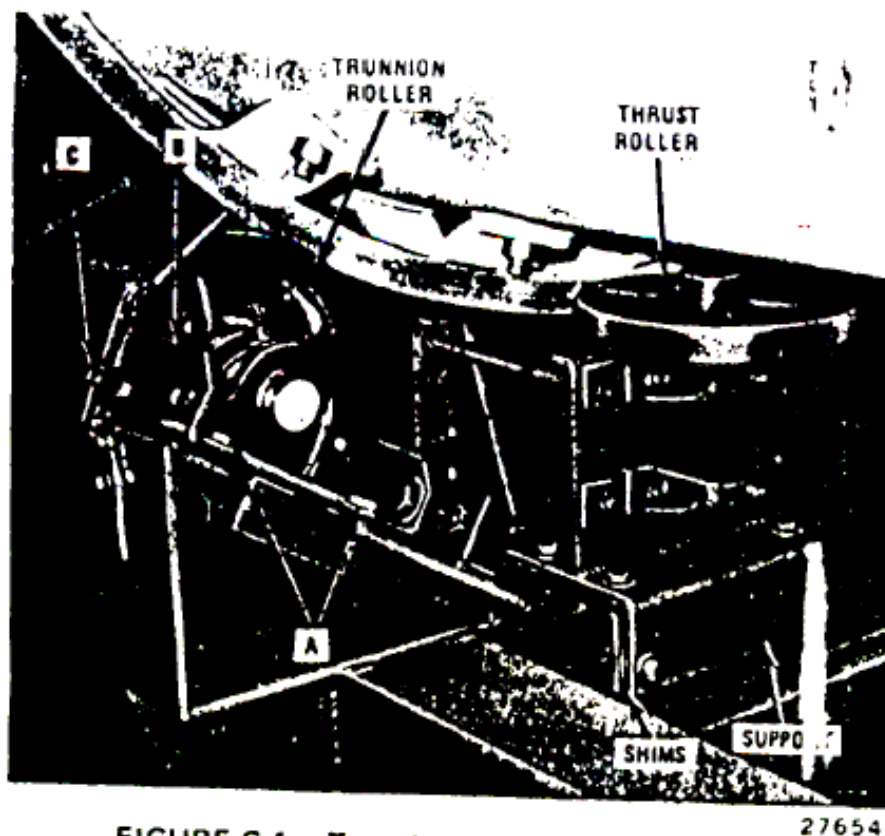

FIGURE G-1 – Trunnion Rollers and Thrust Rollers
In order to simplify the adjustment of each trunnion, a brass instruction plate (Figure G-1) is attached to each trunnion support frame. This plate shows which way to skew the trunnion to shift the drum, either up-hill or down-hill, and has a scale to show the distance that the trunnion assembly has been skewed. The scale has a zero point which denotes no skew. On either side of the zero point the scale is calibrated in eighth and sixteenths of an inch. The eighths are numbered 1,2,3 and 4. The sixteenths marks are not numbered. A chisel mark in the trunnion pivot frame, directly above the instruction plate, serves as an indicator to show the amount of skew.
1. Loosen the four nuts (A) (Fig.G-1), which secure the trunnion frame to the support frame (B).
THRUST ROLLERS: (Refer to Figure G-1)